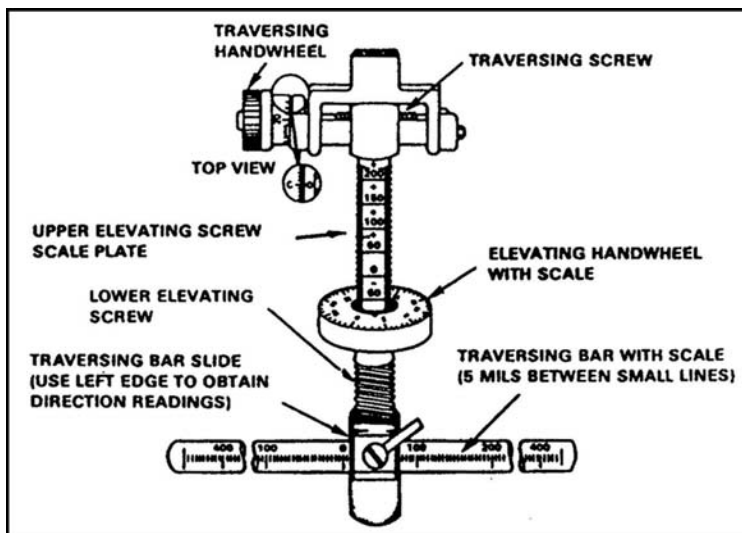

Figure 071-000-0005-4. Traversing and elevating mechanism
- (b) Sketch the symbol for a light automatic weapon (A, figure 071-000-0005-1). Orient the symbol toward the most dangerous target in the sector. (Get this information from the platoon leader.)
- f. Label the targets in the primary sector in their order of priority. Label the FPL or PDF with the number "1" (figure 071-000-0005-2 and figure 071-000-0005-3).
- g. Sketch the secondary sector of fire (E, figure 071-000-0005-1).
- (1) Label the range (in meters) from the gun to each target in the secondary sector.
- (2) Sketch aiming and elevation stakes between the gun position and the target as shown in figure 071-000-0005-2 and figure 071-000-0005-3.
5. Using the T&E mechanism, determine the direction, elevation, and range to each target. Write this information in the DATA SECTION of the range card as follows (figure 071-000-0005-2 and figure 071-000-0005-3):
(1) Lay the gun on the base of the target.
(2) Read the direction on the traversing bar at the left edge of the traversing bar slide (figure 071-000-0005-4).
(3) Determine by the direction of the barrel whether the reading is right or left.
(1) Lay the gun on the base of the target by rotating the elevating handwheel (figure 071-000-0005-4).
(2) Read the number (including a "+" or "-" sign, unless the number is "0") above the first visible line on the elevating scale. (In figure 071-000-0005-4, this reading is "-50.")
- (3) Read, from the elevating handwheel, the number in line with the indicator. (In figure 071-000-0005-4, this reading is "3.")
6. Record the data you found using the T&E mechanism (figure 071-000-0005-4).
- e. Enter the width and depth (in mils) of linear targets. The "-4" in figure 071-000-0005-3 REMARKS block means that depressing the barrel 4 mils will cause the strike of the rounds to go to ground level along the FPL.
- f. When entering the target width (TW) in the REMARKS block, give the width in mils, and express it in two values. For example, in Figure 071-000-0005-2, Target 3 measures 7 mils wide. The second value, R3, means that if the gunner lays the gun on the target and traverses 3 mils to the right, the point of aim will lay to the right edge of the target. Target 3, Figure 071-000-0005-3, shows the width of the target as 15 mils; traversing 8 mils to the left will move the point of aim to the left edge of the target.